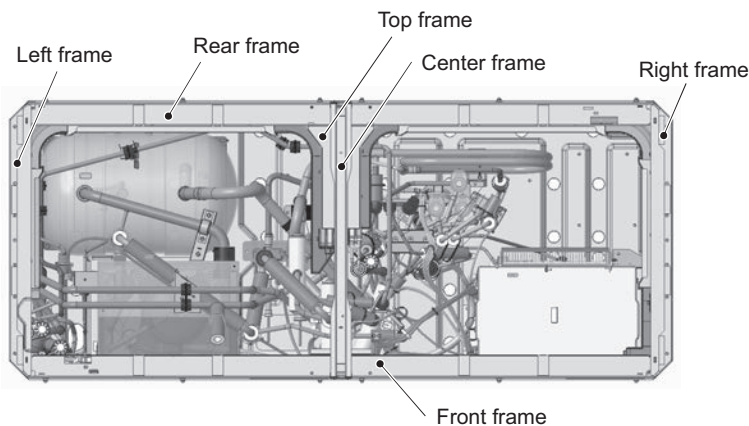

Figure 12
- (14) To remove the front heat exchanger, first remove the front, left, right, and center frames by unscrewing the 16 screws. (See Figure 12.)
To remove the right and left rear heat exchangers, remove the top and the rear frames in addition to the front, left, right, and center frames by unscrewing the 21 screws. (See Figure 12.)